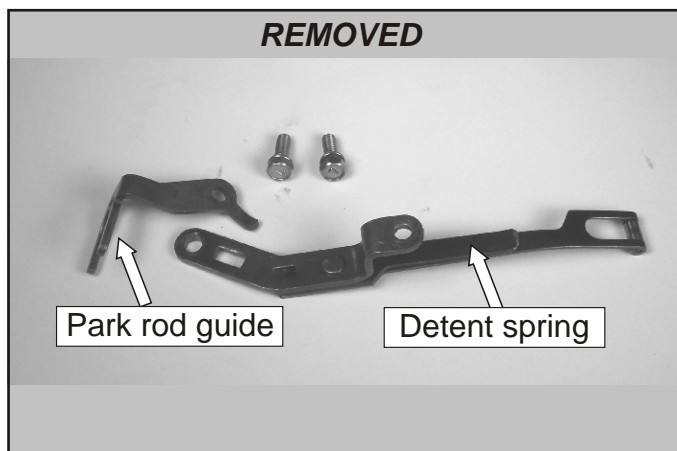
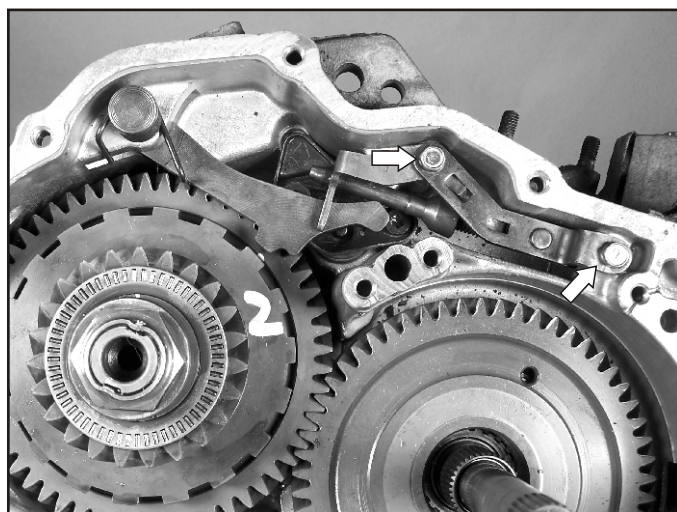

Figure 271
Figure 272
- 196. Install the detent spring and park rod guide as shown in Figure 272. Use Figure 271 as an assembly guide. Install the two retaining bolts and torque to 71-106 in. lb. **Note: the bolt lengths are 15.5mm long.**